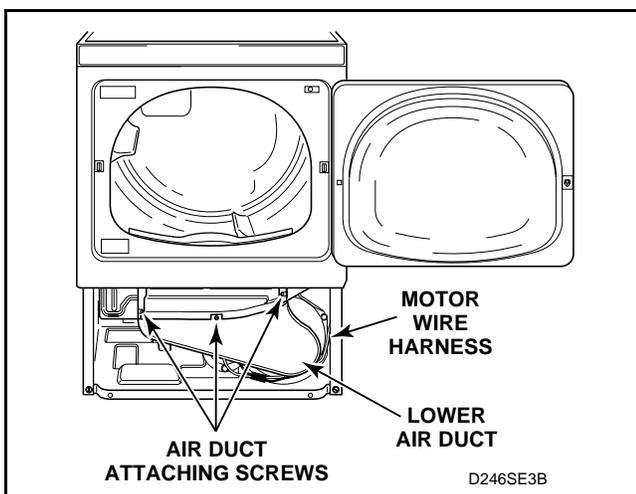

Figure 18
- (3.) Remove three screws holding lower duct to upper duct and remove lower air duct. See *Figure 18*.
- Remove screws holding lower air duct to upper air duct and remove lower air duct. See *Figure 18*.